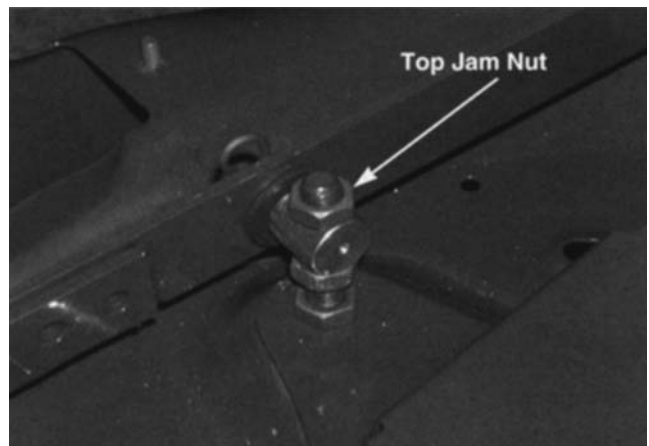

Figure 8-3.
6. Loosen both jam nuts that are directly on top of the center deck ferrules using a 3/4" wrench. See Figure 8-3.
8. Raise or lower the mowing deck assembly by tightening or loosening the jam nuts that are directly on top of the center deck ferrules, until the proper measurement (front to back) has been achieved. Refer to Figure 8-3.
6. Loosen both jam nuts that are directly on top of the center deck ferrules using a 3/4" wrench. Refer to Figure 8-3.
9. Locate and adjust the jam nuts that are directly on top of the center ferrules until the deck is leveled out. Refer to Figure 8-3.